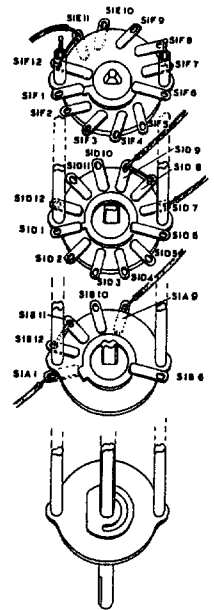
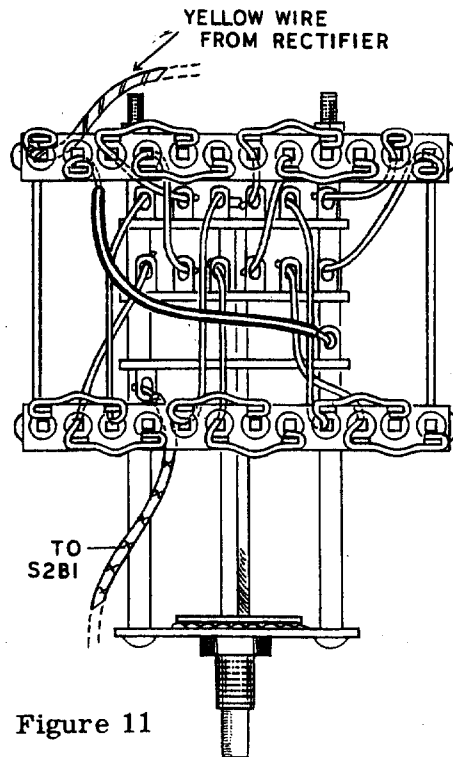

Figure 8
Figure 11
You will note in the exploded switch view, Figure 8, the sections are labeled S1A through S1F corresponding to each side of the three switch decks, starting at the front or shaft end of the switch. The terminals on each deck are numbered in a clockwise direction when viewed from the shaft end. This is common practice in switch construction. However, as we will be looking at the switch from the rear during wiring, the numbering will be found to run counterclockwise. This is mentioned here merely to prevent confusion.
- () First review the preceding paragraphs, then refer to Figure 8.
- () Connect a 3" length of wire to S1A1 (S). Leave the end free.
- () Connect a 2" length of wire to S1A9 (S). Leave the end free.
- () Connect a short bare wire from S1B12 (S) to S1B11 (NS).
- () Connect an 8" length of wire to S1D7 (S). Leave the end free.
- () Connect a short bare wire from S1D8 (S) to S1D9 (NS).
- () Connect a 5" length of wire to S1D9 (S). Leave the end free.
- () Connect a short bare wire from S1F12 (S) to S1E11 (NS).
- () Connect a 5" length of wire to S1E11 (S). Leave the end free.
NOTE: To make the wiring easier to follow, the switch will be wired in two parts corresponding to the two halves on either side of the switch posts and the ring bracket. Also note the switch and ring numbering illustrated in Figures 8, 9 and 12. The wiring will follow a system based on the switch deck and number. For example, S1D4 refers to the #4 terminal on the range switch, middle deck. B8 refers to the #8 terminal on the B ring. In this particular case, the wire will continue on to B10. Where wires connect in this manner, care should be taken to avoid the in-between terminal B9 as shown in Figure 11. Although bare wire is used throughout the switch wiring, there is ample space to arrange wires to avoid each other. Thus the switch wiring may be done for the most part without the use of spaghetti, resulting in a much neater appearance. The wiring from ring to switch can best be accomplished by feeding the wire through the hole in the ring terminal lug until connection can be made to the switch terminal. Connect to switch terminal, arrange the wire properly to clear other wires or terminals, and finally wrap once around the ring terminal.
() Refer to Figure 11 for the following wiring.
NOTE: In the following wiring where connections are made to two terminals on the rings, the easiest method of doing so is as follows. Run the bare wire through the hole in the first terminal mentioned and connect to the proper switch terminal. Arrange the wire to clear. On the other end, bring the wire around the outside of the lug as shown in Figure 11, to the last terminal mentioned and wrap one turn around the terminal. Make sure the wire clears the terminal between the two connections.
- () Connect a bare wire from B3 (NS) to S1F2 (S) and to B5 (NS).
- () Connect a bare wire from B4 (NS) to S1D2 (S) and to B6 (NS).
- () Connect a bare wire from A5 (NS) to S1F3 (S) and to A7 (NS).
- () Connect a bare wire from A6 (NS) to S1D3 (S) and to A8 (NS).
- () Connect a bare wire from B7 (NS) to S1F4 (S) and to B9 (NS).
- () Connect a bare wire from B8 (NS) to S1D4 (S) and to B10 (NS).
- () Connect a bare wire from A9 (NS) to S1F5 (S) and to A11 (NS).
- () Connect a bare wire from A10 (NS) to S1D5 (S) and to A12 (NS).
- () Connect a bare wire from B11 (NS) to S1F6 (S).
- () Connect a bare wire from B12 (NS) to S1D6 (S).
- () Connect a bare wire to S1B6 (S). Cover with a 2 3/8" length of spaghetti and connect to B2 (NS). Run wire as shown in Figure 11.